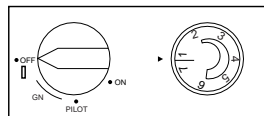

Figure 18 - Dual Control for Thermostat Model FBS-10BA
3. Push in control knob slightly and turn clockwise  to the OFF position (see Figure 18). Be sure that the temperature setting knob is set at the line between level 1 and level 7.
5. Push in and turn control knob counterclockwise  to PILOT position. Press in control knob for five(5) seconds.
7. Press in control knob and turn counterclockwise  past IGN to PILOT (see Figure 18). This will cause the piezo ignitor to spark and light the pilot gas. Keep control knob depressed for 10 seconds before releasing. If needed, repeat steps 5 through 7 until pilot lights.
8. When pilot is lit, turn the ignition knob to ON position (see Figure 18).
9. To select desired heating level, turn the temperature setting knob counterclockwise  between 1 and 7 (see Figure 18).